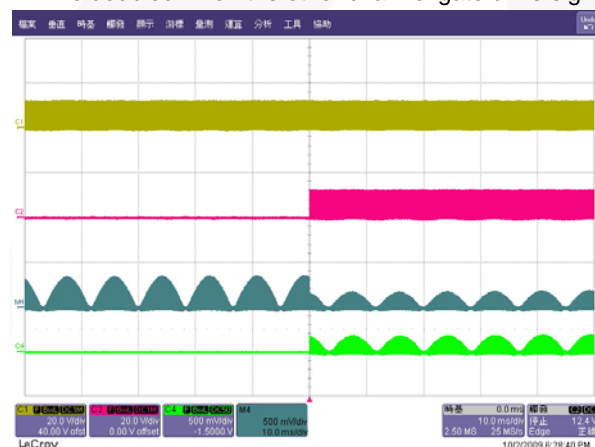
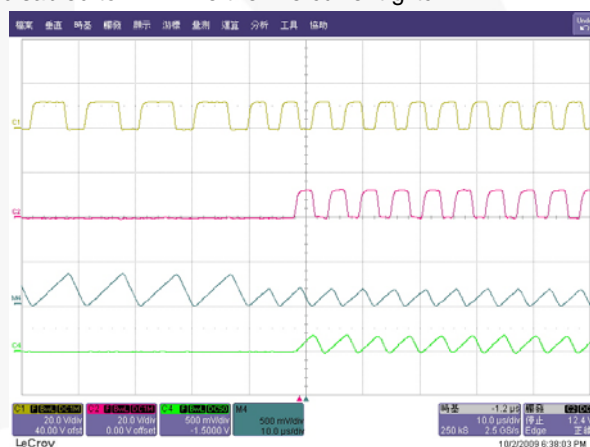

Figure 23. Phase-Adding
Figure 24. Zoom-In
10. Figure 23 and Figure 24 show the phase-adding waveforms. The duty cycle of Channel 1 gate drive signal becomes half just before the other channel gate drive signal is enabled to minimize the line current glitch.